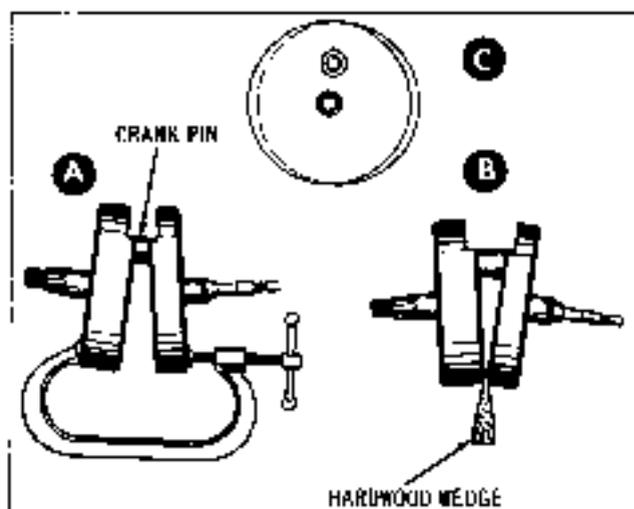

Figure 3-42. Correcting Flywheel Alignment
3. When nut is fairly tight, install flywheel assembly in Flywheel Truing Device, Part No. 90650-30. (See Figure 3-42.) Adjust so centers are snug. Wheels must turn freely but shafts may not be loose in centers. If flywheel assembly is either loose or squeezed, indicators will not indicate accurately. Adjust indicators to take reading as near to flywheels as possible, so pointers read at about the middle of the scales.
5. Flywheels may be out of true three ways, A, B and C, Figure 3-42 or a combination of two of the three ways.